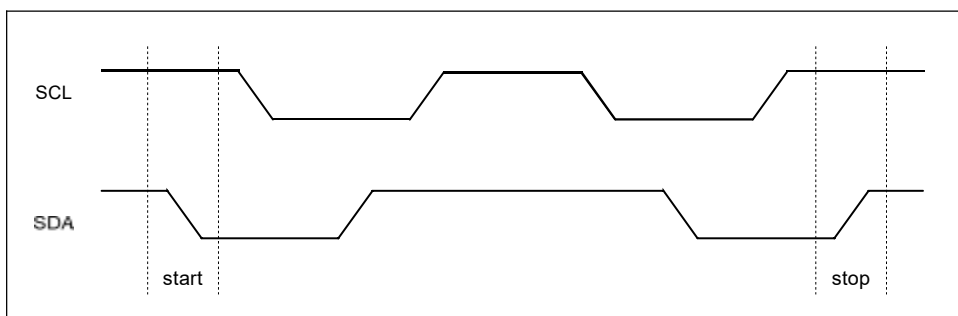

Figure2 Start and Stop Definition
**START CONDITION:** A high-to-low transition of SDA with SCL high is a start condition which must precede any other command (see to Figure 2).
**STOP CONDITION:** A low-to-high transition of SDA with SCL high is a stop condition. After a read sequence, the stop command will place the EEPROM in a standby power mode (see to Figure 2).